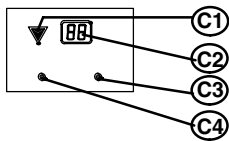

Fig. 7 Programming buttons
- The buttons (fig.7 , C3 and C4) are used for programming. These buttons are visible by means of a small white dot. They can also be felt with the fingers.
1. Press buttons (fig.7 , C3 and C4) simultaneously and keep them pressed in until P1 appears in the display (fig.7 C2).
1. Press buttons (fig.7 , C3 and C4) simultaneously and keep them pressed in until P1 appears in the display (fig.7 C2) (after approx. 10 seconds).
3. Now press button (fig.7 C3) for a higher temperature or button (fig.7 C4) for a lower temperature.
3. Now press button (fig.7 C3) to set a higher number of litres or button (fig.7 C4) to set a lower number of litres after which the filter must be replaced.